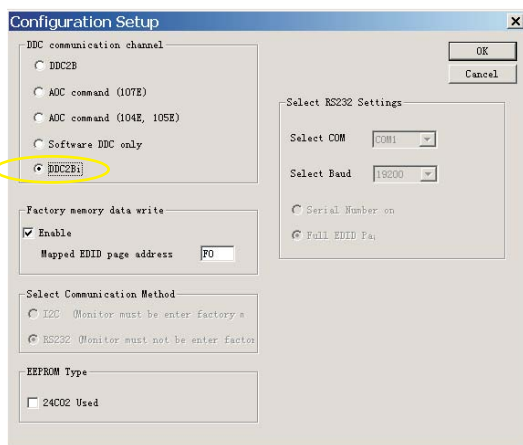

Fig. 12
- Select the DDC2Bi as the communication channel. As shown in Fig. 12.